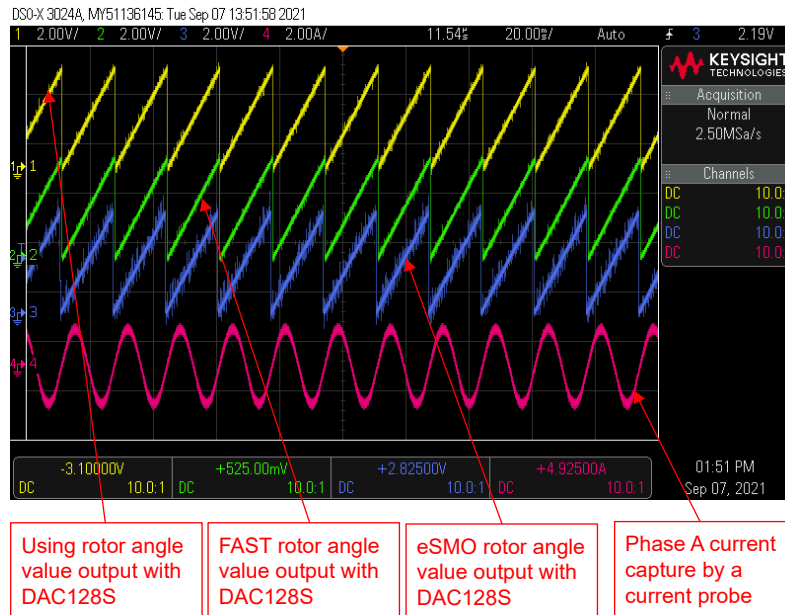

Figure 2-43. Build Level 4: Rotor Angle with FAST and eSMO, Phase Current Waveforms at Forward Rotation
- The estimated rotor angles from FAST and eSMO are shown in Figure 2-43. The motor is running with FAST at **forward** rotation by setting `motorVars_M1.speedRef_Hz` to a **positive** value.
Use DAC128S085EVM with an oscilloscope to monitor rotor angle of the motor from the FAST and eSMO estimator, and a phase current of the motor as shown in Figure 2-43 when the motor is running at forward rotation by setting `motorVars_M1.speedRef_Hz` to a positive reference value.